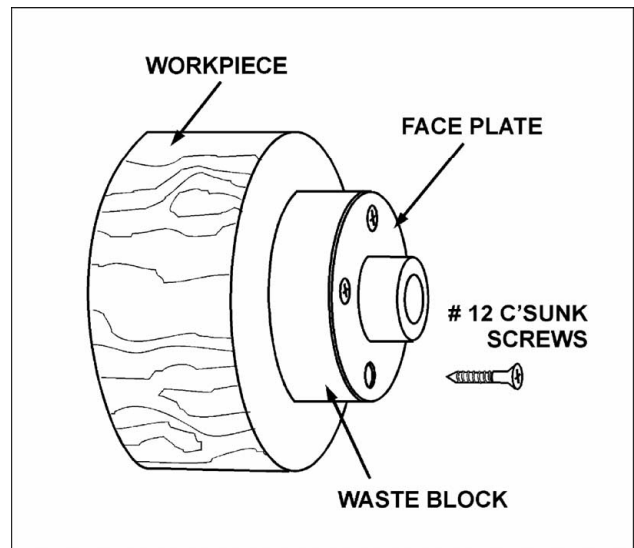

Fig. 20
3. Using the faceplate as a template, mark the location of the mounting holes, and drill pilot holes of the appropriate size. If the mounting screws on the faceplate interfere with the workpiece, a waste block can be mounted to the faceplate and then the waste block mounted to the workpiece by gluing or screwing, see Figure 20.